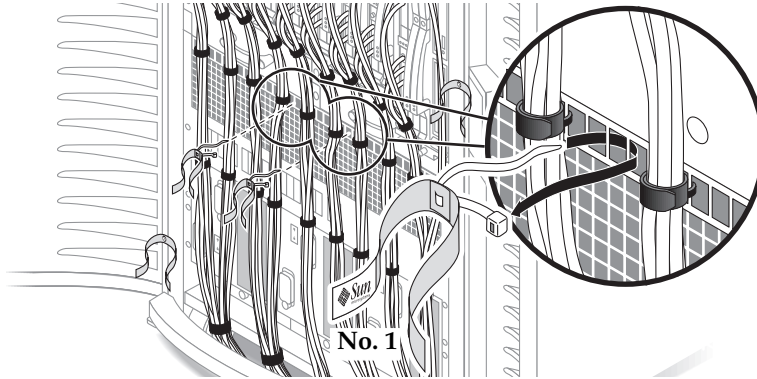

FIGURE 2-8 Green Cable Hanger Strap With Tie Wrap at Air Plenum
11. At the center of the air plenum cutouts, secure two green cable hanger straps (No. 1), with tie wrap to the cutouts of the air plenum (FIGURE 2-8).